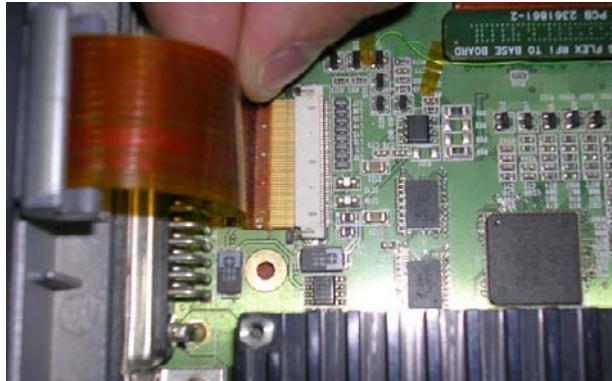

Figure 8-44 Disconnecting the LCD Flex Ribbon Cable
- 4.) Disconnect the LCD Flex ribbon cable from the BEP, as shown in Figure 8-44 below.
- 3) Use both hands to re-connect the LCD Flex ribbon cable to the BEP - refer to Figure 8-44 on page 8-46 .